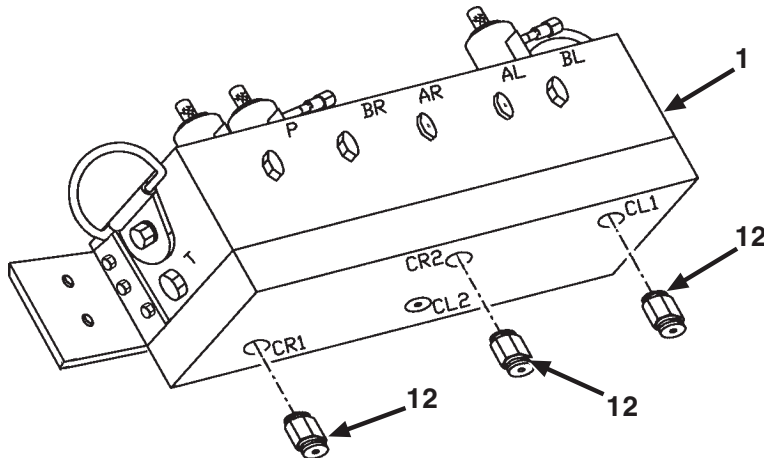

Figure 80. Rear Fuel Tank Strap.
Step 3 applies to Figure 80.
3. Install three straight adapters (item 12) on track and blade manifold bottom (item 1), ports CR1, CR2, and CL1.